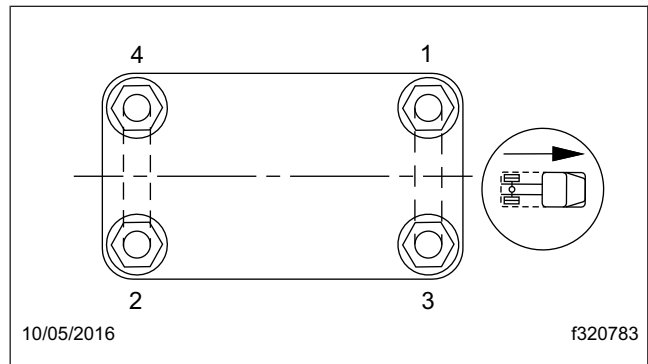

Fig. 5, Tightening Pattern for U-Bolt (or Clamp Bolt) High Nuts
22. Install the new U-bolts. Tighten the new U-bolt high nuts in stages and in a diagonal pattern as shown in Table 3 and Fig. 5.